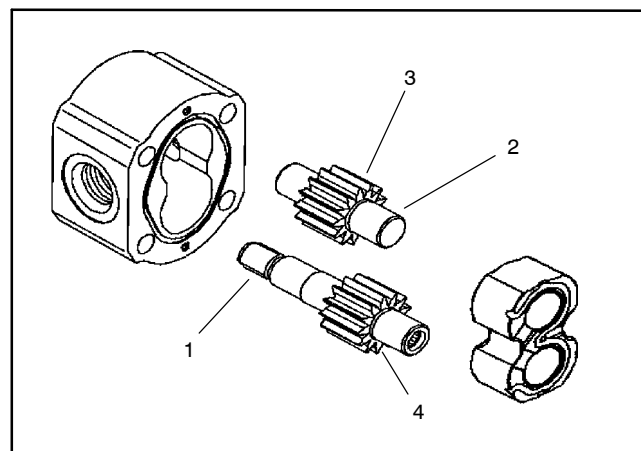

Figure 44.4
3. Inspect drive gears and idler gears for the following (Fig. 44.4):